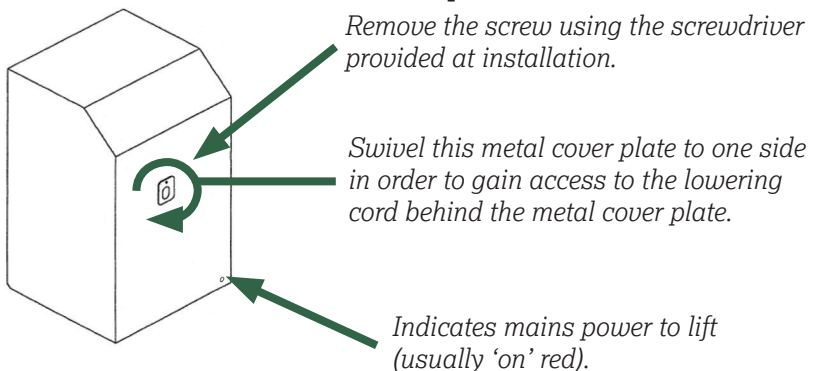

Figure 8.
- Locate the hydraulic power unit, normally outside the property (*Figure 8*).
- Using the Torx Driver supplied, swivel the metal cover plate on the front face of the housing to reveal an access hole (*Figure 8*).